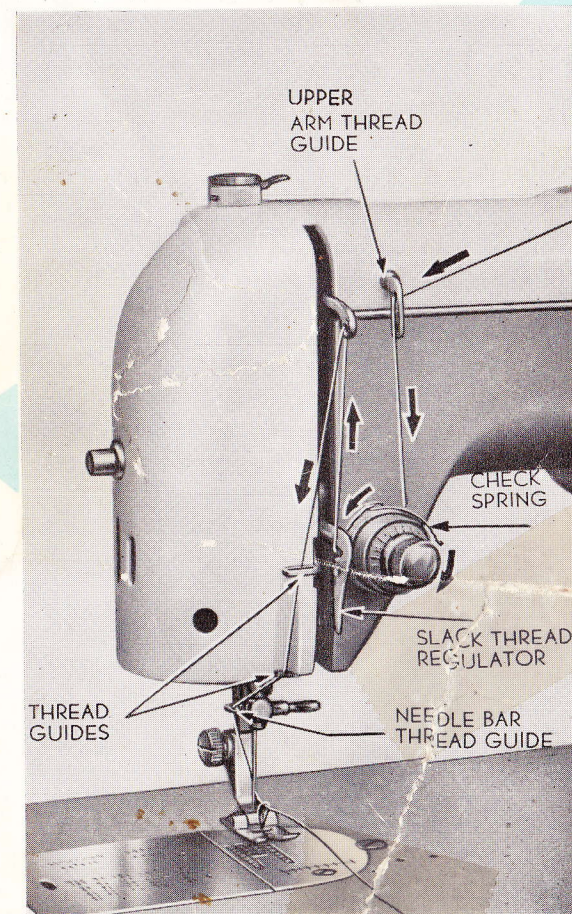

Fig. 11
3. Lead the thread through the arm thread-guide (Fig. 11).